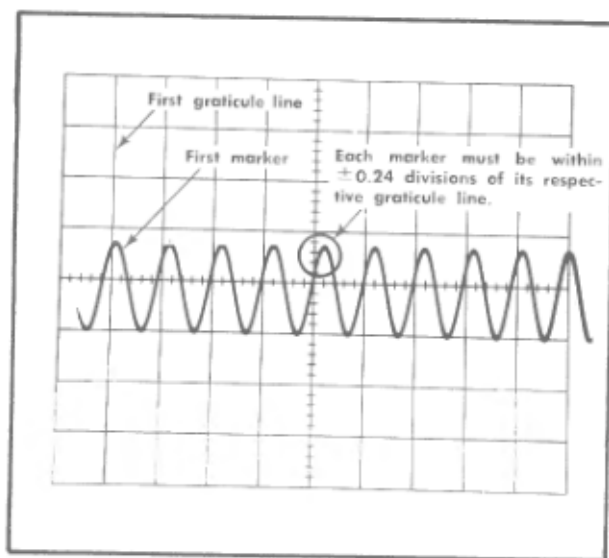

Fig. 6-50. Typical CRT display when checking 0.5 microsecond \times 10 magnifier linearity.
c. CHECK—CRT display for each marker within ± 0.24 division of its respective graticule line ($\pm 3\%$; see Fig. 6-50).